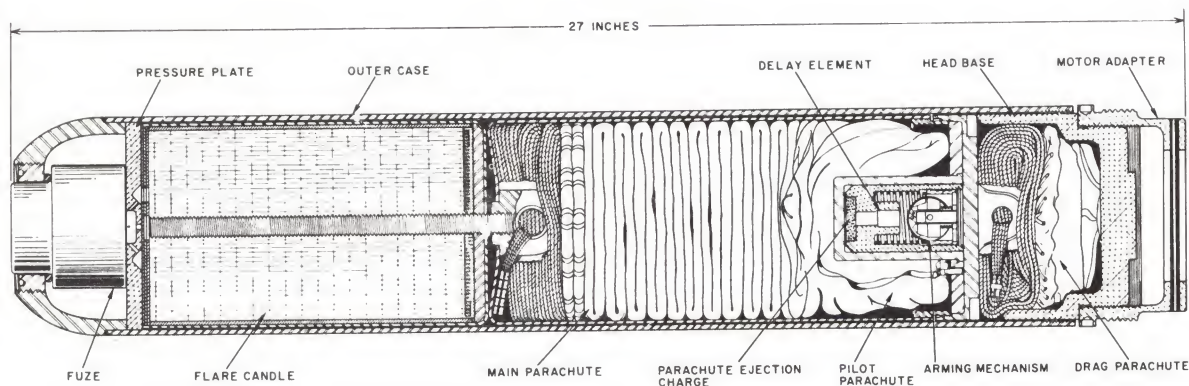

Figure 9 - 5.0-Inch Rocket Head Mk 33 Mod 0 (Illuminating).
5. 0-INCH ROCKET HEAD MK 33 MOD 0 (ILLUMINATING). The Mk 33 head, figure 9, is a 27-inch-long cylindrical case containing a fuze, a flare candle, a main suspension parachute and its pilot chute, a delay-action mechanism, and a drag parachute. A head base, threaded to fit the rocket motor, seals the case.